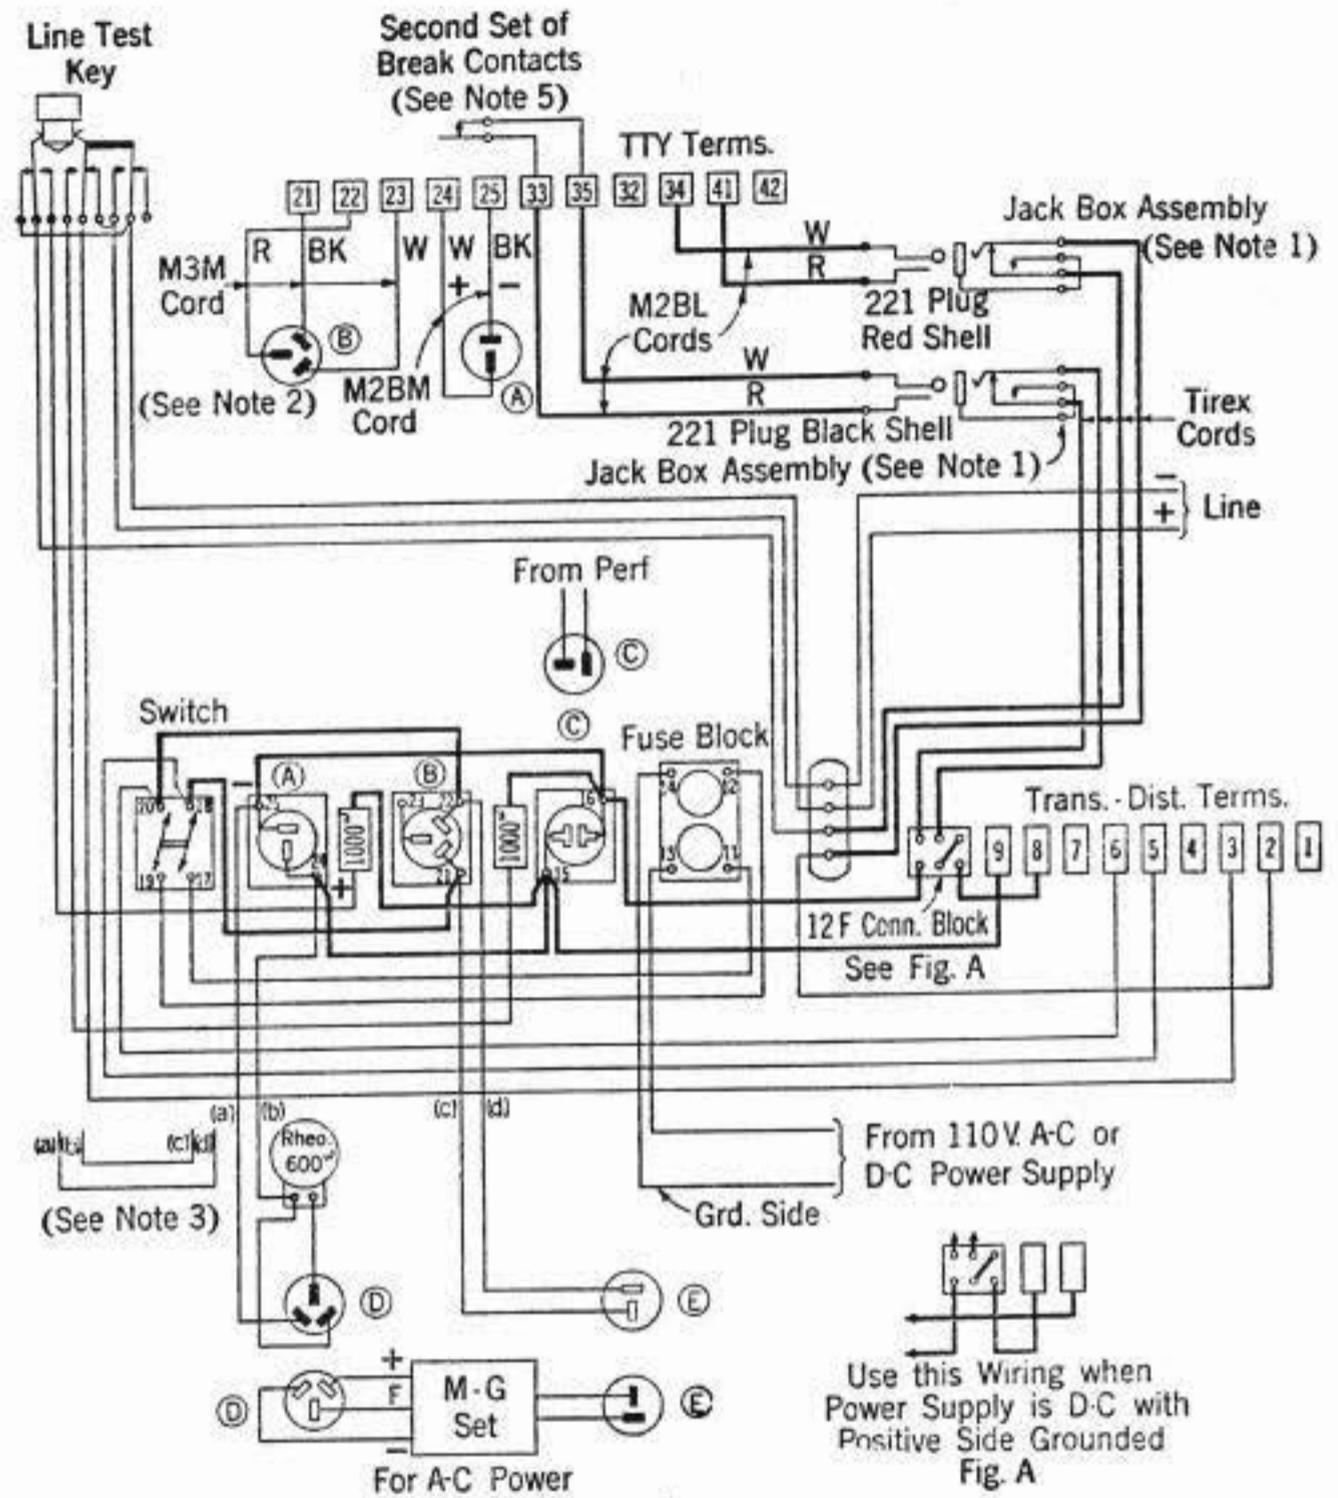

Fig. 1
3. When power supply is D-C omit MG set and connect as indicated to provide proper polarity at outlet (A). See Fig. A when power supply is D-C with positive side grounded.
8. The circuit in Fig. 1 has been changed as compared to Issue 1 to avoid exposed potentials on the BLACK plug and on the sleeves of the jacks.